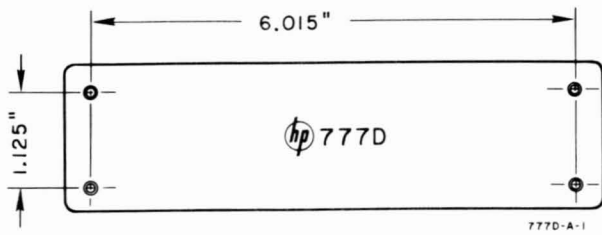

Figure 2. Lateral Dimensions of Tapped Mounting Holes
4. Each coupler is supported by four plastic feet ( Stock No. 0361-0207) on the bottom of the coupler. The feet are inserts in 8-32 tapped holes and may be removed to mount the coupler. Lateral dimensions between mounting holes are given in Figure 2.